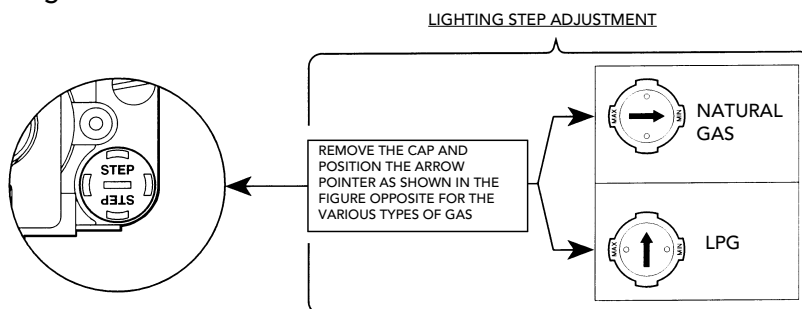

fig. 8
- 2 Remove the small protection **3** (fig. 8). Using a small screwdriver, adjust the lighting "STEP" for the required gas (G20-G25 or G30-G31); then refit the cap.